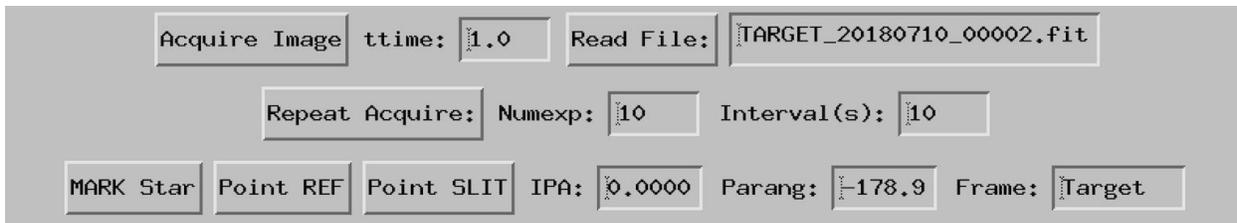

Figure 17. Cut-out section of the slitviewg GUI showing the image and pointing controls.
- 1) **Acquire Image**: Takes an image, with integration time set in 'time' (Figure 17). The file name is written to the following field, with the format 'TARGET_20180706_00096.fit'.